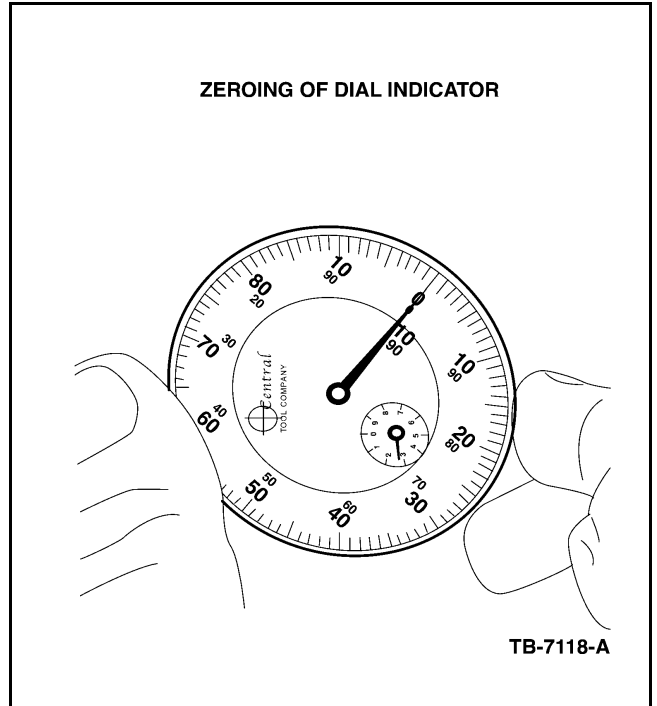
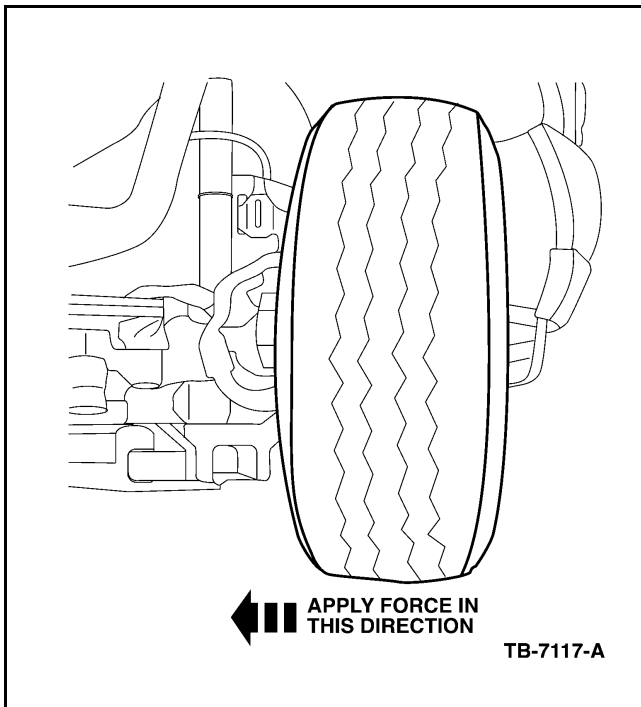

Figure 7 - Article 03-11-2
Figure 6 - Article 03-11-2
8. Apply a reasonable amount of lateral force at the 6 O'clock position (Figure 6) of the wheel and zero the indicator as shown (Figure 7).